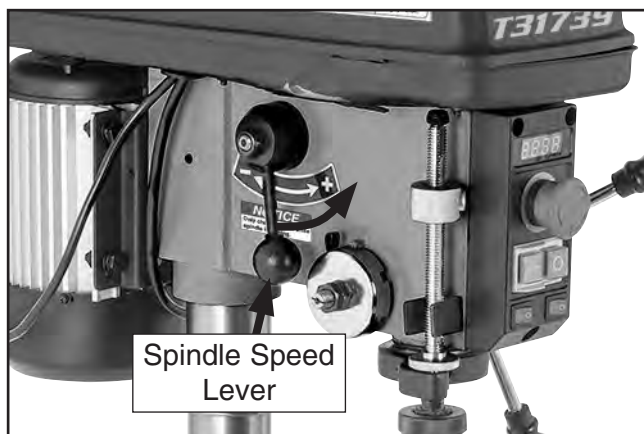

Figure 46. Spindle speed lever location.
2. Adjust spindle speed lever fully forward to highest speed setting (see **Figure 46**) to release belt tension.